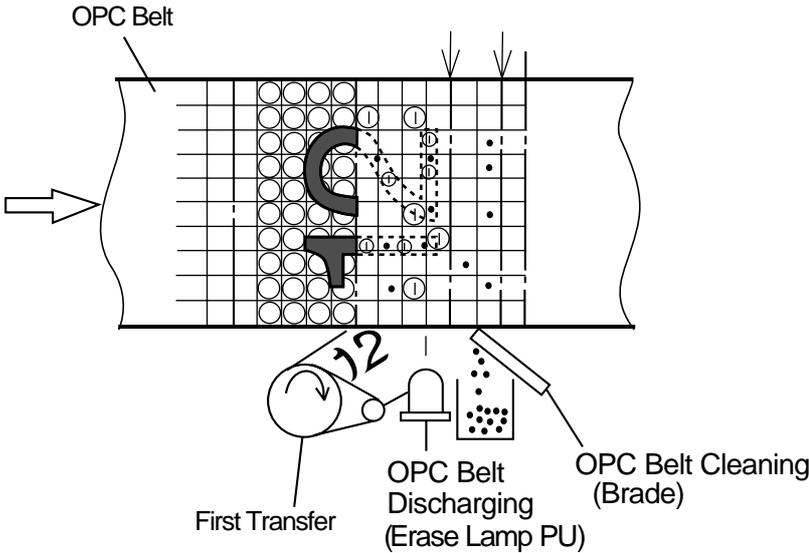

Fig.4-19
- (2) Process of Discharging (Refer to Fig.4-19.)
- ii) Residual charge -VR(V) on the OPC belt is discharged by the radiation of erase lamp's light prior to cleaning the belt.